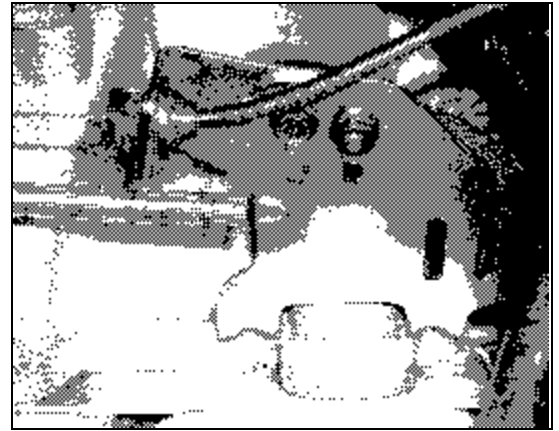

Figure 2 - Throttle Cable Bracket
2. Select the appropriate cable brackets for your application (large or small opening brackets) and attach them to the GEN III throttle bracket base with the appropriate number of 6mm x 1.0 x 12mm serrated flange hex bolts. *(Note: In our retrofit of the LS1 into a 1974 Camaro, using a TH400R automatic transmission, we only needed one of the small opening cable brackets for the throttle cable, since a kickdown cable is not used. See Figure 2 for example.)*